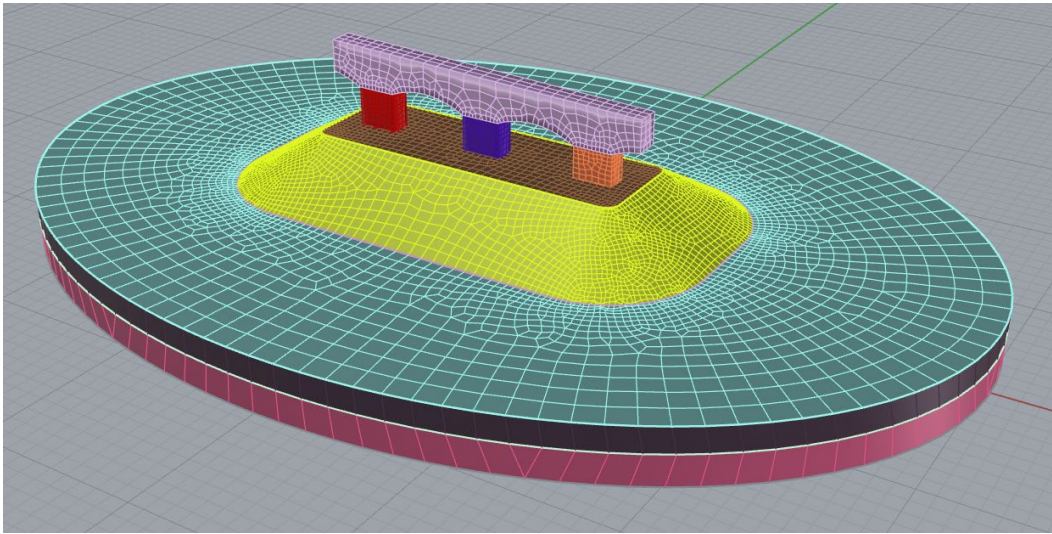
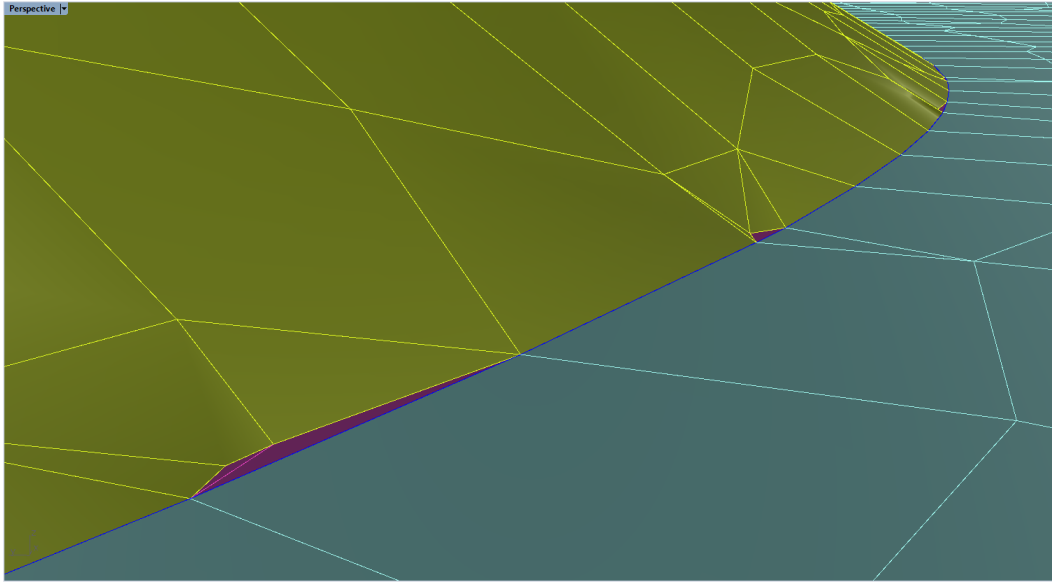

Figure 24: Remeshed surface meshes using standard approach.
Figure 25: Slightly deformed surface meshes with approach 1.
11. Select all surface meshes and remesh with **_GSurf** () using the following parameters: *Mode* = *QuadDom*, *MinEdgeLength* = 0.25, *MaxEdgeLength* = 5, *RidgeAngle* = 5, *AdvancedParameters* → *MaxGradation* = 0.06, and keep all other parameters at the default values. The resulting meshes are shown in Figure 24. These meshes look good overall, but zoomed views of the curved bottom / top embankment sections reveal (yellow-lightblue / yellow-brown meshes) that these areas contain small elements (faces) that do not fully conform to the initial shape (Figure 25). This issue is the result of independent meshing of the initial BRep surfaces and also due to using a relatively large **GInt** tolerance³.
16. Remesh the initial mesh with **GSurf** () using the same settings as in Step 11. The quality of elements (faces) around the curved parts of the embankment is much higher if compared with the mesh in Figure 24 (or with the meshes in layer “Meshes_Approach1”).